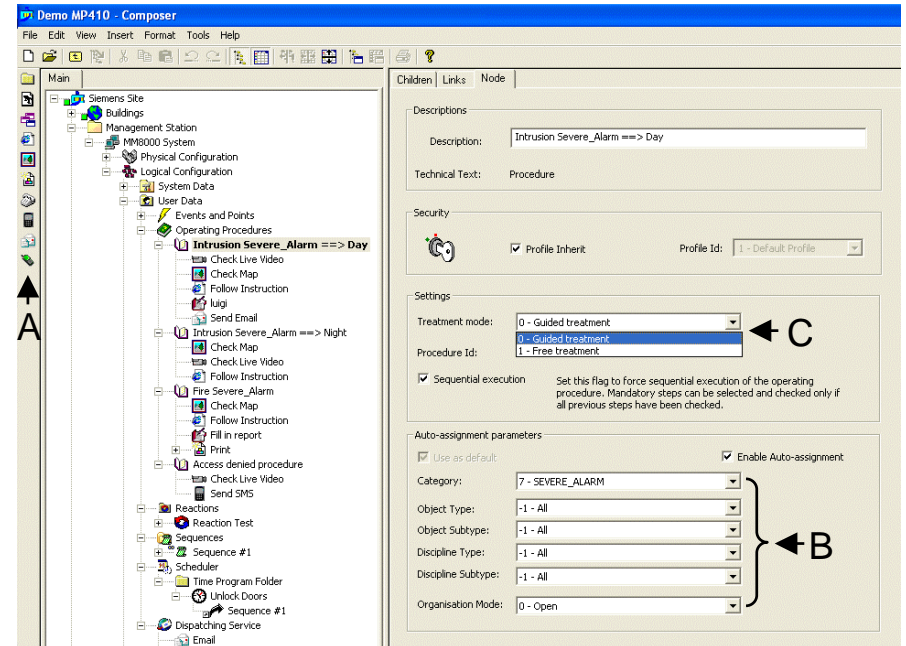

Fig. 6 Define the operating procedure parameters in the Node tab
**Note:** Select “Guided treatment” when the operator needs to perform a series of steps. Select “Free treatment” to provide the operator with a set of tools to treat the event. (See “C” in Fig. 6.)